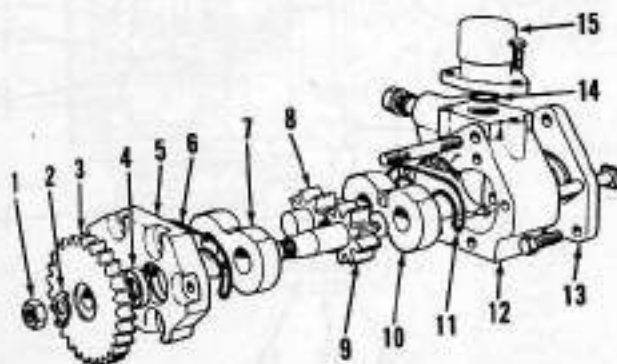

Fig. 207—Exploded view of rear mounted hydraulic pump used for 1190 and 1290 models.
**363. DISASSEMBLY.** To disassemble pump, scribe a mark across mounting plate (13—Fig. 207), pump body (12) and end plate (5) to aid in reassembly. Remove nut (1) and washer (2). Use a suitable puller to remove gear (3).